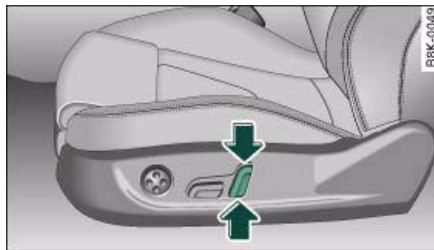

Fig. 76 Front seat: Adjusting head restraint (electric adjustment*)
- Press the switch ⇒ fig. 76 up or down to move the head restraint to the desired height.